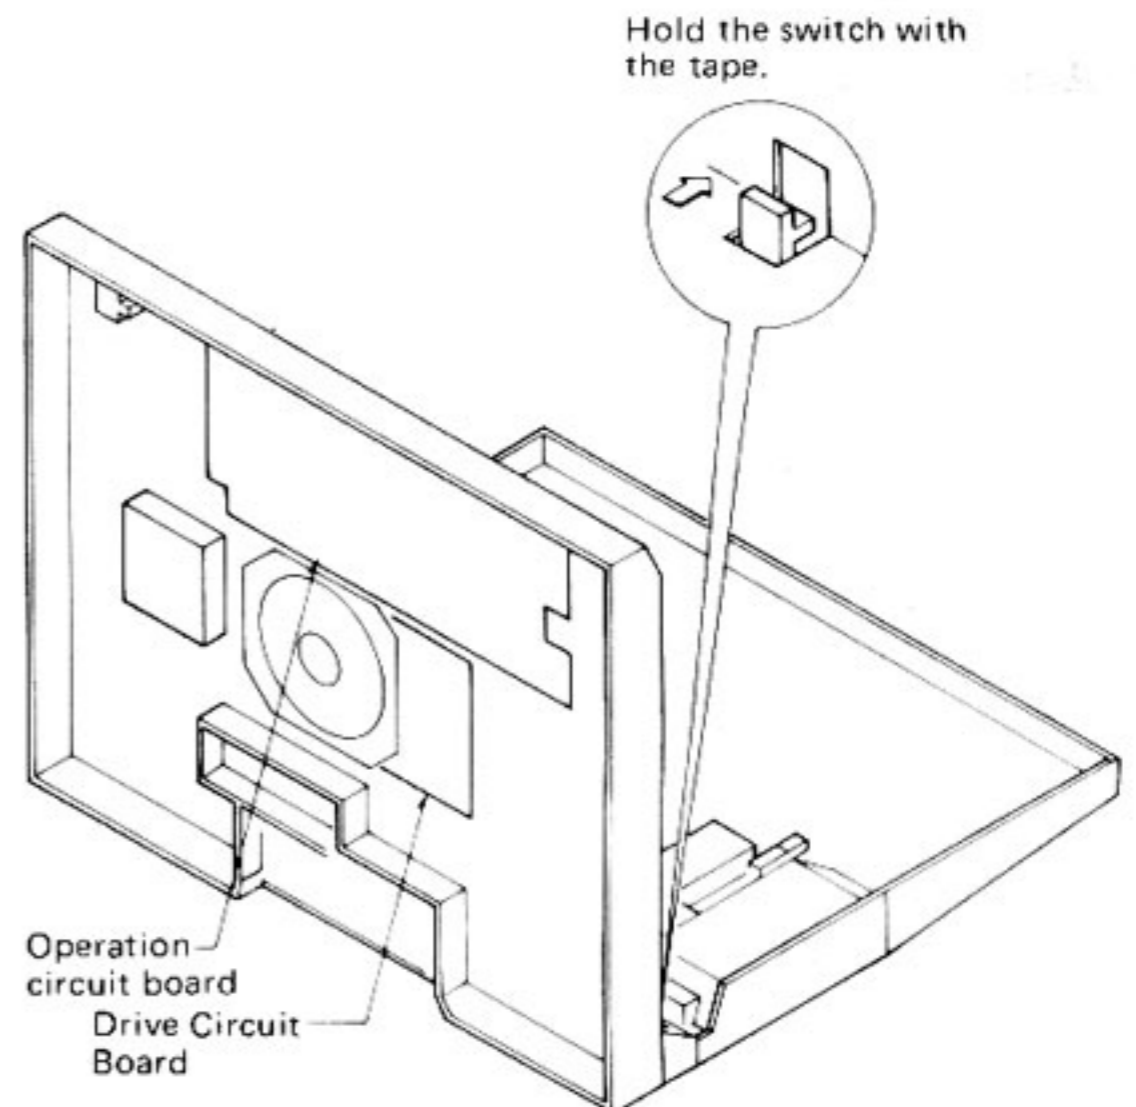

Fig. 27
2. How to raise the set (Fig. 27)